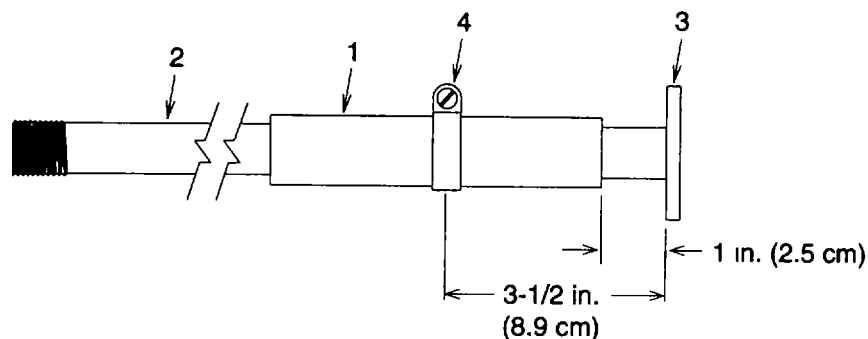

Figure 4-21. Gas Tube Assembly Dimensions
- (3) Slip rubber sleeve (1) (fig. 4-21) down onto dip tube (2) 1 inch (2.5 centimeters) away from end plate (3). Secure with hose clamp (4) positioned 3 1/2 inches (8.9 centimeters) away from end plate (3).